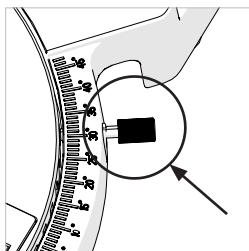

Fig. 12
- Loosen the Mitre Angle Locking Screw. **(Fig.12)** This is found at the front RH side of the table near the 30° index mark.